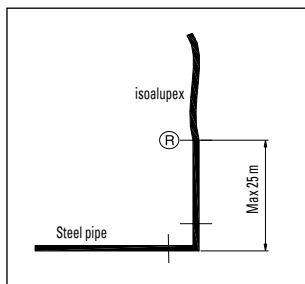

fig. 4
- When connecting isoalupex to steel pipes which are not fixated, the rules shown in fig. 4 must be observed.